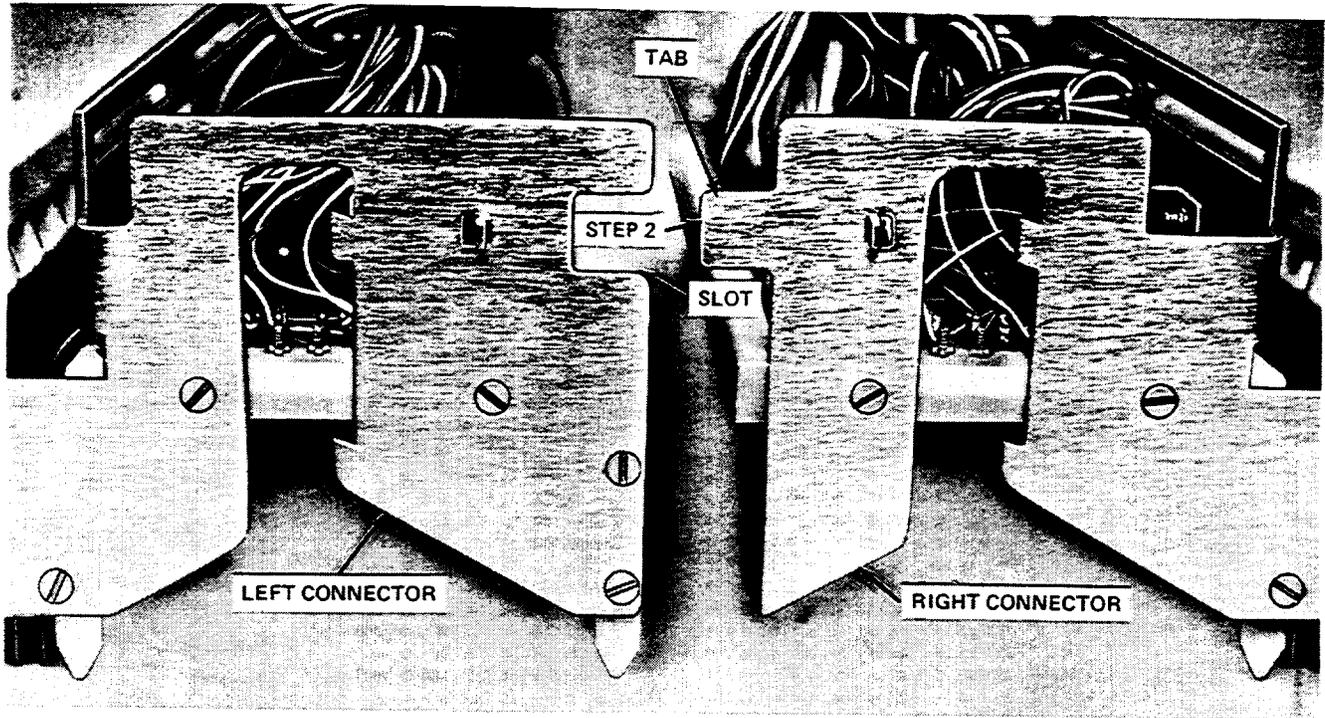

Figure 12—Aligning Tab With Slot
- (3) Before positioning the **right** 309-type connector into place, the tab (Figure 12) must be aligned with the slot in the left connector.
- (1) See Figure 12 for the number that corresponds to the following step.
- (2) Align the tab of the **right** connector with the slot of the **left** 309-type connector.